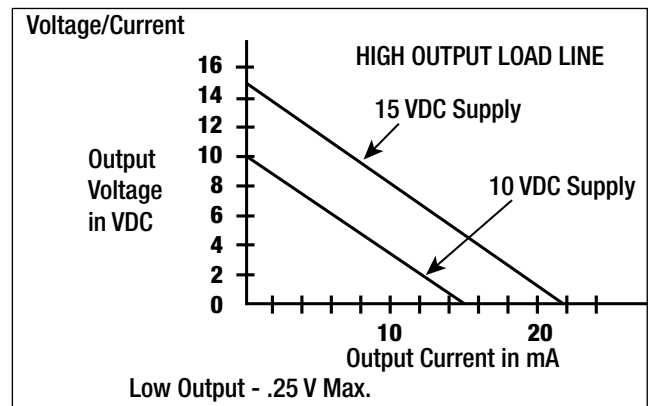

Figure 2. Output Current
- Output Voltage: Dependent on load. (see Figure 2).